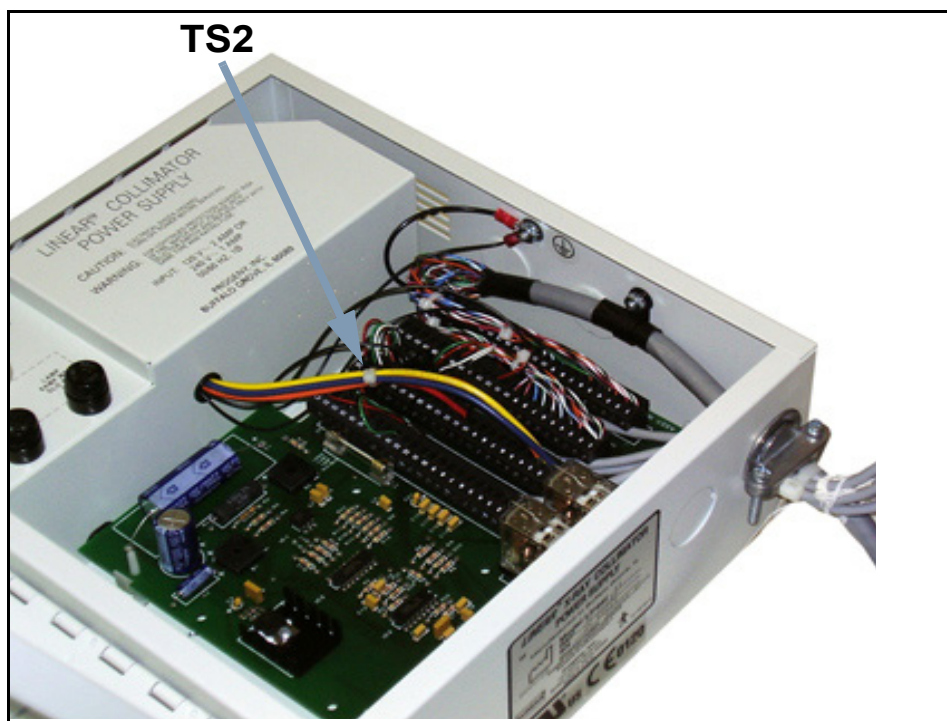

Figure 2-23. Linear II
- 1 Connect the wallstand PBL cable (1 in Figure 2-23) to the system PBL cable (2). The green wire goes to green wire, white to white, etc. The figure shows a terminal block (3) connecting the two cables. This terminal block is not provided with the wallstand.